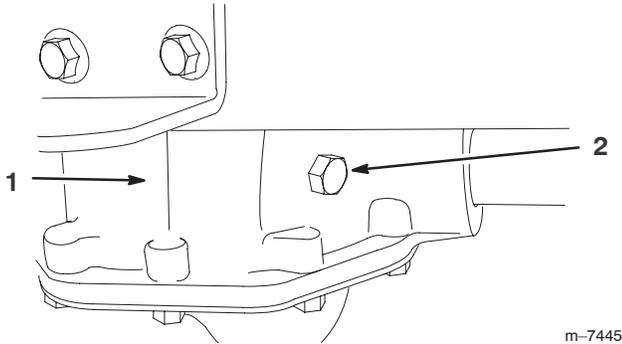

Figure 40
2. Remove the check bolt on the transaxle (Fig. 40).